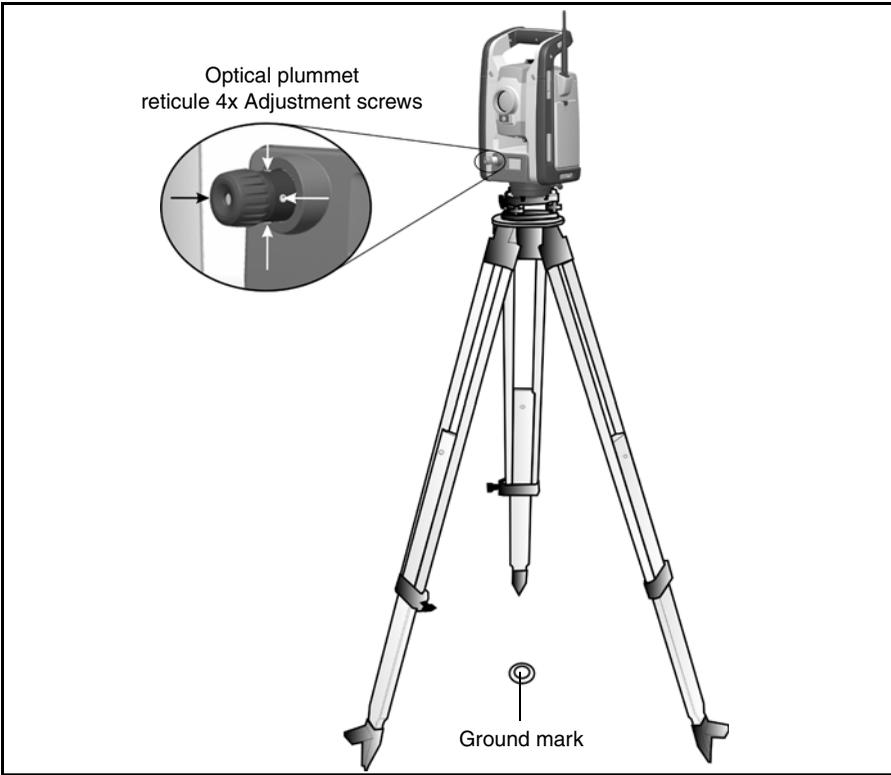

Figure 4.33 Optical plummet adjustment
1. Set up the instrument and level it over a ground mark so that the tripod height is 1.5 m (± 0.1 m) (4.920 ft. (± 0.328 ft.)). Figure 4.33